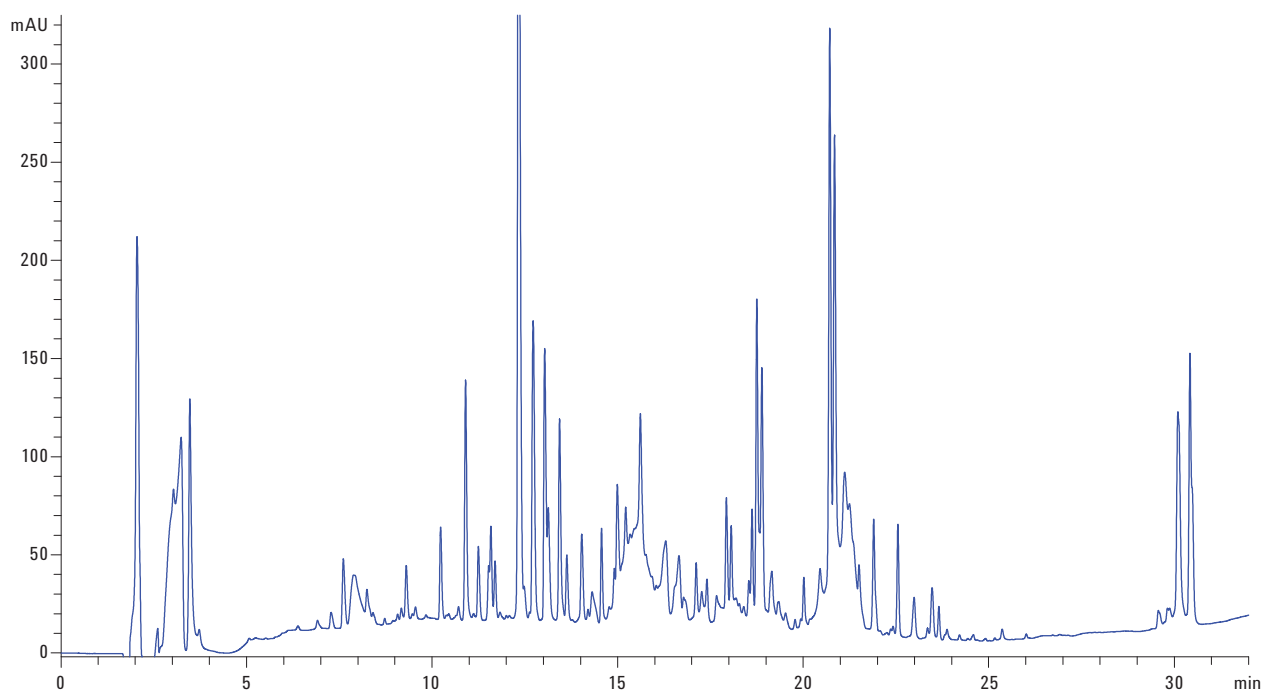

Figure 1. Reversed-phase rhEPO peptide map using a 2.1 × 250 mm, 2.7 μm Agilent AdvanceBio Peptide Mapping column (See Chromatographic conditions section).
(TFA) and formic acid (FA) ion-pair additives to determine effects on retention and peak shape. The AdvanceBio Peptide Mapping column delivered excellent separation performance and compatibility with both TFA and FA ion-pair additives. The optimized separation displayed in Figure 1 provided the best separation profile for rhEPO mapping. The 2.1 × 250 mm AdvanceBio Peptide Mapping column and optimized chromatographic conditions with formic acid as the ion-pair additive enabled a high resolution separation of the rhEPO tryptic digest, providing very narrow peak widths, increased sensitivity, and unique selectivity across the gradient profile, making this separation highly amendable to ESI/MS analysis.